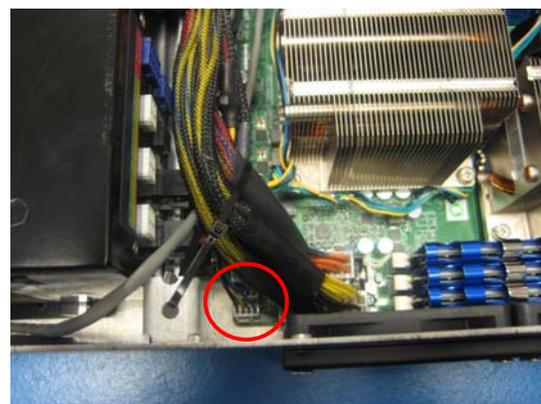

Figure 3-74
- 4) Each fan has its own power connector that is attached to the main motherboard. Disconnect the power connector associated with the failed fan (Figure 3-74).